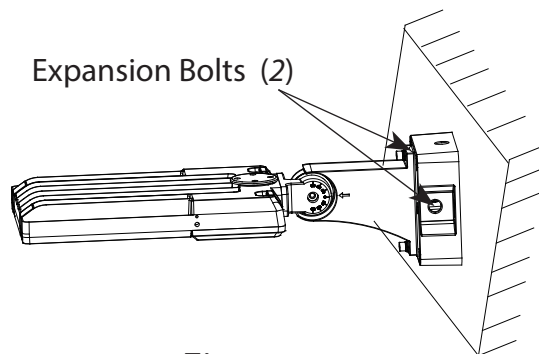

Figure 5
Step 6: Place the fixture and wall mount kit on expansion bolts and secure with nuts. (Figure. 5)